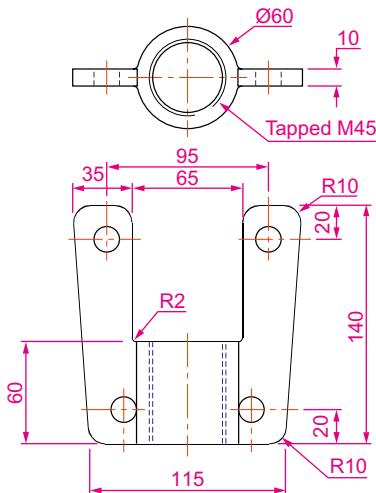

Fig. 15.20 First example – **Rendering** – two-view projection
1. Construct a 3D model of the wing nut shown in the two-view projection (Fig. 15.20).